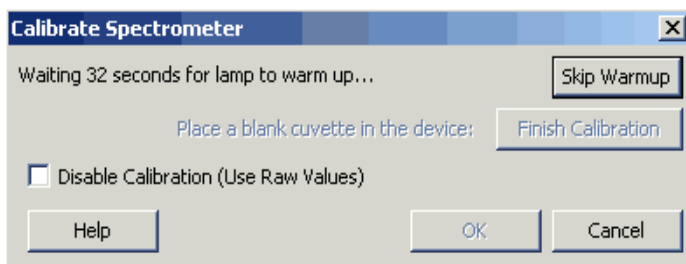

Figure 2. Calibration stores a reference spectrum.
The absorption spectra of HMR and MR^- are given schematically in Figure 2. For two components in solution, the absorbance must be measured at two different wavelengths. The best wavelengths to choose for the analysis are where one form absorbs strongly and the absorbance of the other form is negligible. Examination of Figure 2 reveals that there are no wavelengths where one form, acid or base, absorbs exclusively. For this case, we need to set up two equations in two unknowns, one equation for each wavelength. Call the two wavelengths λ_1 and λ_2 . The absorbance at λ_1 is A_1 and at λ_2 is A_2 . The two measurements then provide two simultaneous equations with two unknowns:
The molar absorbance coefficients are illustrated in Figure 2. The molar absorbance coefficients are determined from standard solutions that contain one component alone. Eqs. 6 and 7 provide two equations in two unknowns. For an unknown solution, the absorbances at the two wavelengths, A_1 and A_2 , are determined and then Eqs. 6 and 7 are solved for the unknown concentrations $[\text{MR}^-]$ and $[\text{HMR}]$ at each given pH.
Figure 2: Absorbance of a solution is the sum of the absorbances of the constituents. Measurements at two wavelengths are necessary to determine the composition of a two-constituent solution if the absorbance bands overlap. The first subscript indexes the wavelength and the second subscript indexes the constituent.
An isosbestic point is defined as the wavelength where two species have the same molar absorptivity. At the isosbestic point the total absorbance of a solution of the two ions is independent of their relative concentrations but is dependent only upon the total dye concentration. The appearance of an isosbestic point is evidence that only two species are involved. Figure 2 shows two isosbestic points. You will use your spectra to determine if there are only two absorbing species in this experiment.
4. To calibrate the Spectrometer, choose Calibrate → Spectrometer from the Experiment menu. The calibration dialog box will display the message: “Waiting...60 seconds for lamp to warm up.” (see Figure 2) The minimum warm up time is one minute. **NOTE: For best results, allow**